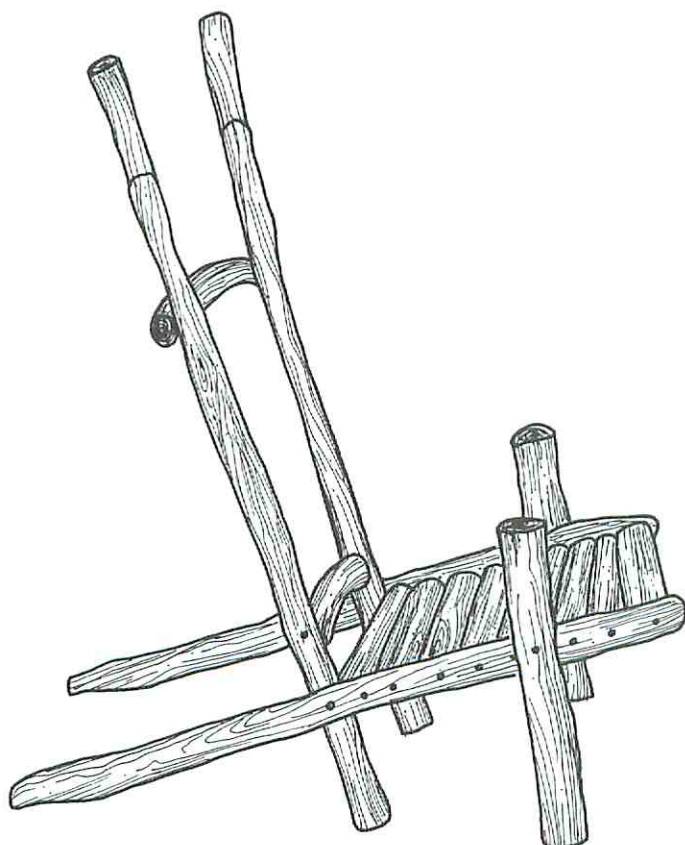

Figure 1
Next, predrill holes in both the base supports and front legs and use lag bolts to attach them to one another. See Fig. 1. You'll want to hold off on firmly tightening the bolts, though. Wait until after the basic frame is assembled so that you'll have a sturdy piece to work with and can level it properly. For now, the base support should be about 10" from the ground where it attaches to the front legs.
Next comes the seat assembly. Refer to Fig. 1 for guidance. You'll need to predrill holes in all pieces used thus far, as well as your seat pieces (D). For stability, secure the seat pieces at the front and back of the seat with lag bolts.